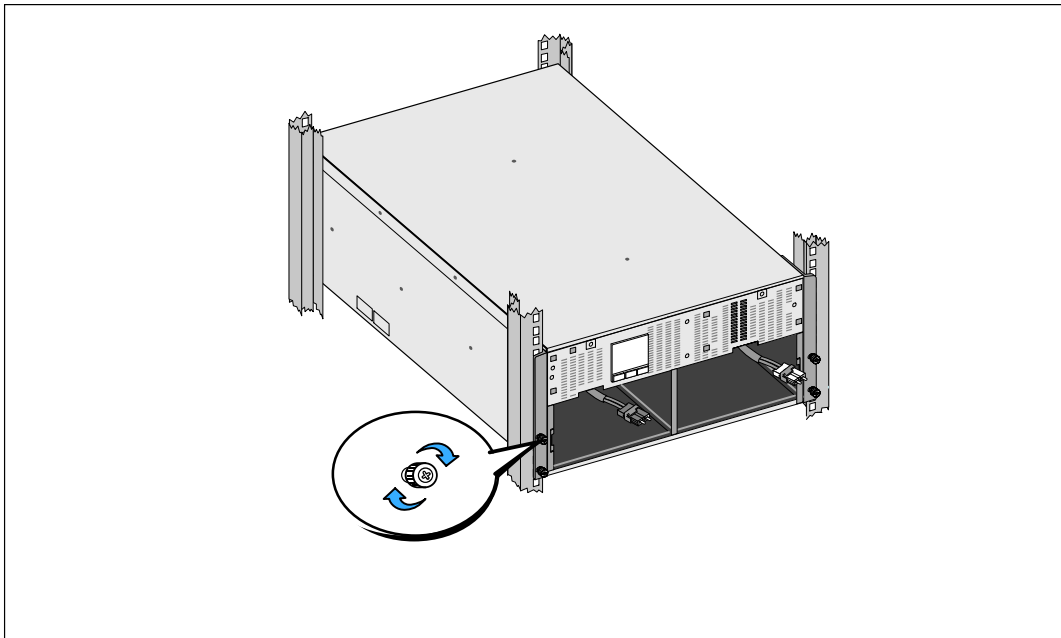

Figure 12. Securing the Cabinet
- 7 Secure the front of the cabinet to the rack using the four thumbscrews on the mounting brackets (see Figure 12). Tighten the thumbscrews clockwise by hand; do not use power tools.